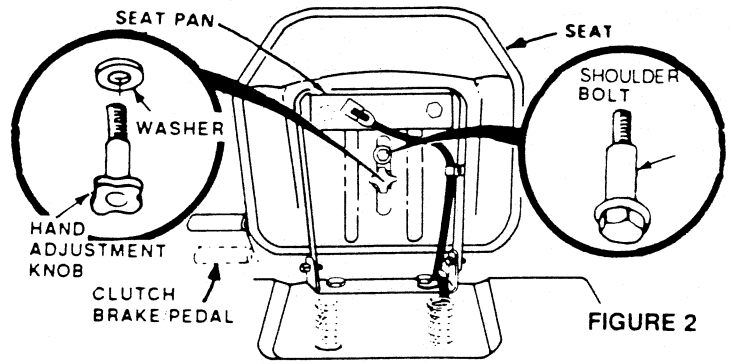

FIGURE 2
- Place seat on seat pan. Screw Seat Knob, Lockwasher and Flat Washer into Seat (Fig. 2). Screw Shoulder Bolt into Seat (Fig. 2). Seat Knob, Shoulder Bolt and Washers found in Bag of Parts (shown full size on page 6).